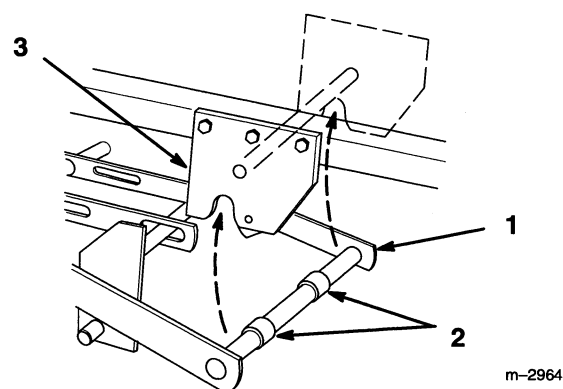

Figure 5
7. Align front mounting shaft so spacers are between mid-mount hitch plates (Fig. 5).
8. Lift mower with attachment lift to capture mounting rod and close mid-mount hitch lock handle (Fig. 5).